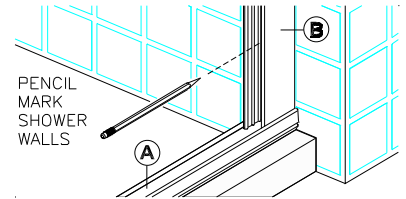

figure 2
3. Place Wall Jambs (B) on to ends of Sill (A) and up against shower walls as shown in figure 2. Plumb the Jambs, then pencil mark their installation holes locations on the shower walls (3 per jamb). Remove Wall Jambs. Using a 3/16" drill bit (designed to drill through material you are working with), drill 1" deep installation holes in locations previously marked. Insert Plastic Screw Anchors (J) into holes.